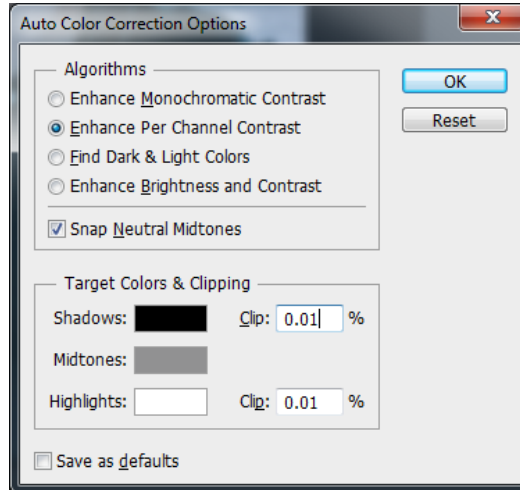

Figure 15. Auto Color Correction in Photoshop
(3) Create a New Adjustment Layer> **Invert**, which works best when placed **after** the mask removal step.
(4) Create a New Adjustment Layer> **Curves** with the 'Auto Option' settings of Figure 15 below. You have the option to set Shadows and Highlights clipping points separately, which may be beneficial for some images. A setting of 0.01% works well with most images and retains near maximum dynamic range.